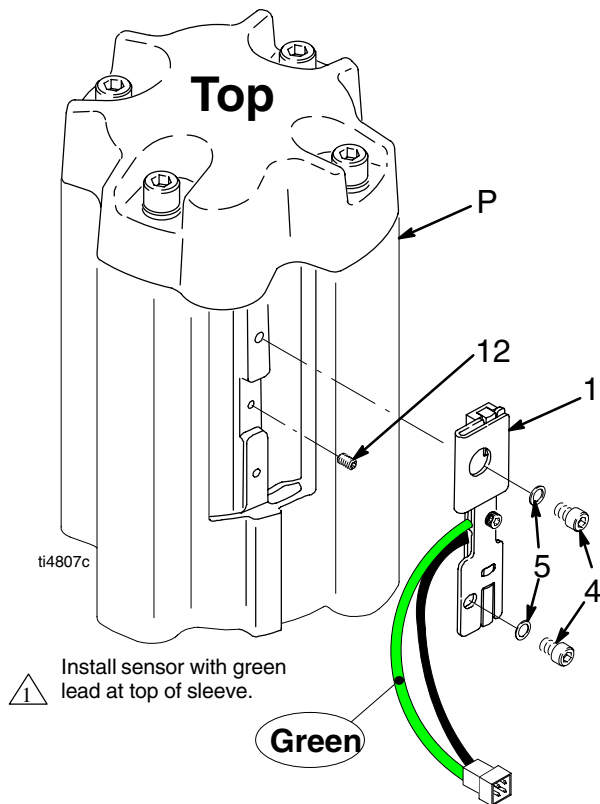

Fig. 3
6. Apply Locktite® to set screw (12) threads. Tighten set screw to 3–5 in-lbs (Fig. 3).
8. Install sensor bracket assembly (1) to cylinder sleeve (P) using screws (4) and lock washers (5) (Fig. 3).
NOTE: HydraMax 225 (Model 248598) uses two screws (4) and washers (5). HydraMax 300/350 (Model 248599) uses one screw (4) and washer (5) (Fig. 3).
4. Remove sensor bracket assembly (1) from cylinder sleeve (P) by removing screws (4) and lock washers (5) (Fig. 3).
5. Install sensor bracket assembly (1) to cylinder sleeve (P) using screws (4) and lock washers (5) (Fig. 3).